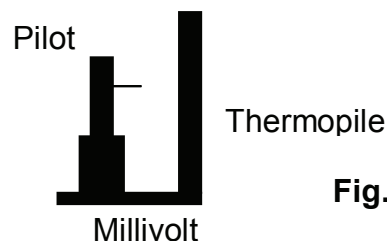

Fig. 10
3. Wait five (5) minutes to clear out any gas. Then smell for gas, including near the floor. If you smell gas, STOP! Follow ‘B’ in the safety information above on this label. If you don’t smell gas, go to the next step.
4. Locate pilot (Fig. 10) – located at center of pan burner mounted on the rear of the pan burner.